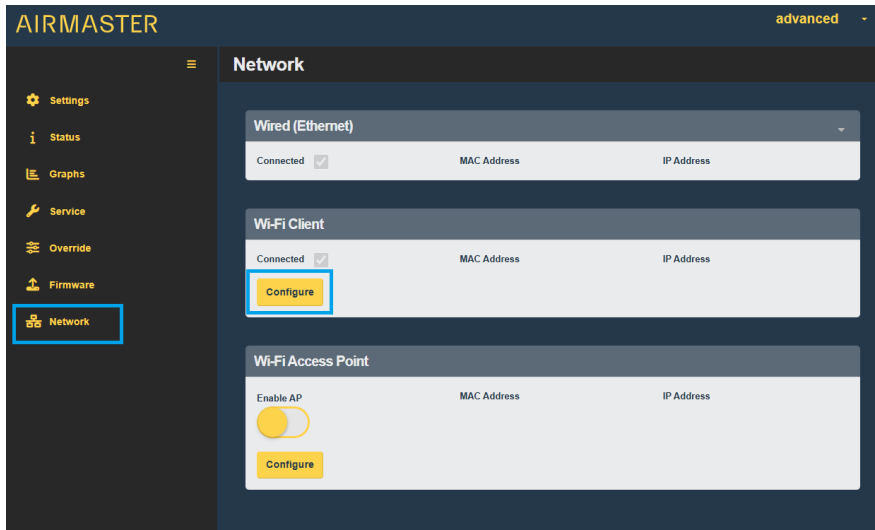
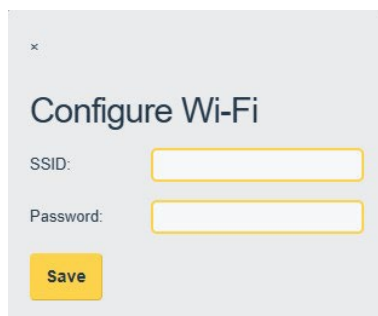

Figure 25: Network and Configure buttons
Figure 26: Wi-Fi configuration window
6. Click on "Network" on the left-hand side, then click on "Configure" in the 'Wi-Fi Client' section, see Figure 25 and Figure 26 below.
If you wish to confirm that the unit is connected to the Internet, check for MAC and IP address information, which will be displayed in the Network window (i.e. Figure 25).